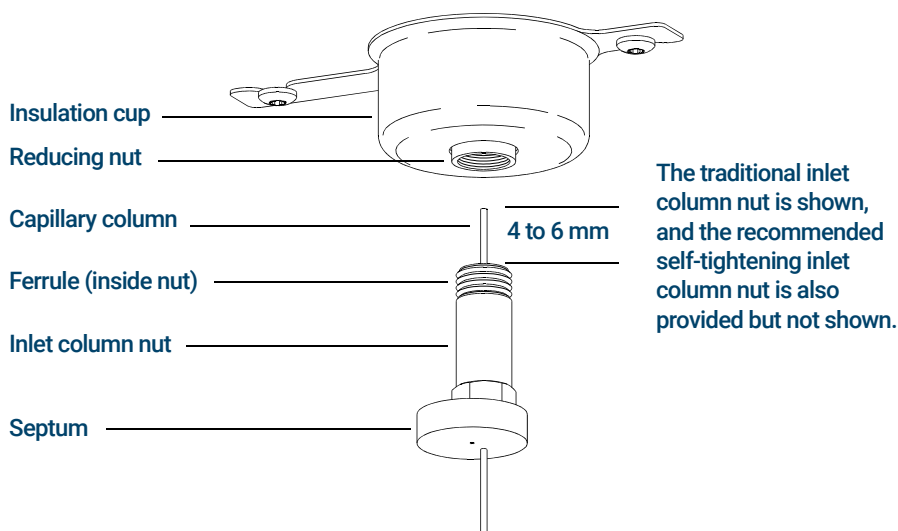

Figure 3. Installing a capillary column for a split/splitless inlet
- 7 Position the septum under the column nut so that the column extends 4 to 6 mm past the end of the ferrule. (See **Figure 3** on page 34.)
For the standard column nut, (shown in Figure 3) tighten the nut an additional 1/4 to 1/2 turn. The column should not slide with a gentle tug.